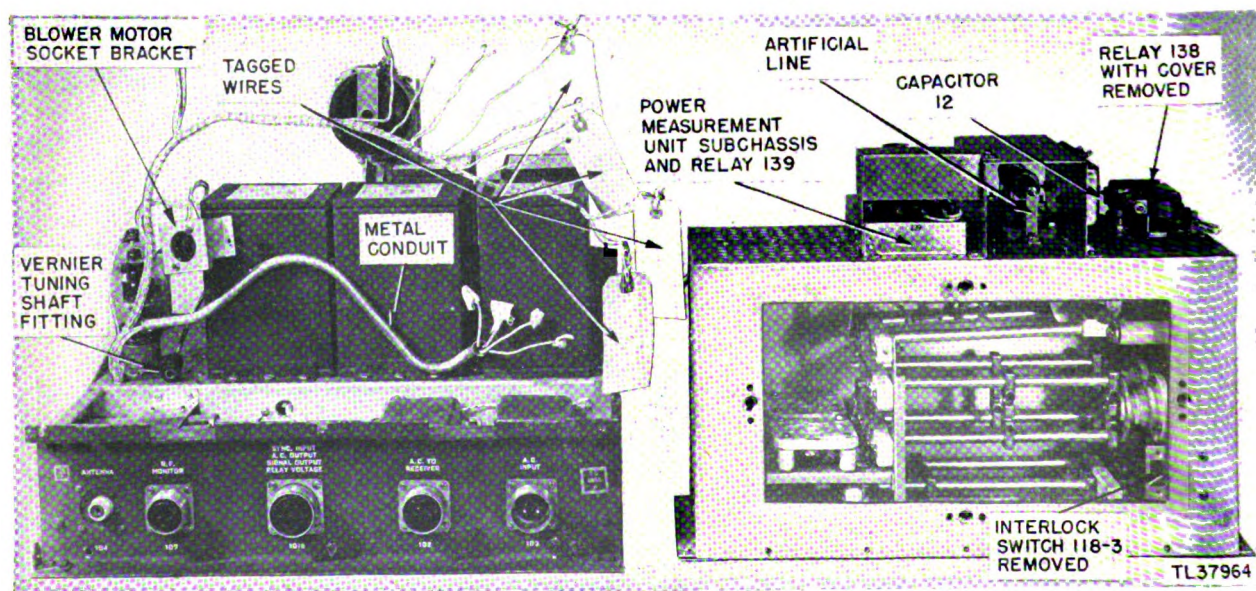

Figure 159. Transmitter, oscillator compartment removed.
c. When removing parts such as switches and terminal boards, which have several wires attached to their terminals, be sure to tag the wires carefully so that they will be replaced in their proper positions (fig. 159).
In order to replace a defective vernier tuning gear assembly, the following procedure is necessary (figs. 159 and 160):